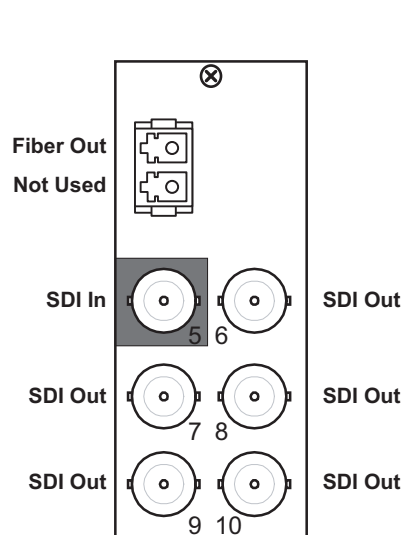

Figure 2.3 Cable Connections for the 8320AR-044 Rear Module
- **8320AR-044** Full Rear Module — Each card occupies two slots and accommodates one card. This module provides an optical output, an SDI input, and five SDI outputs. Refer to **Figure 2.3**.